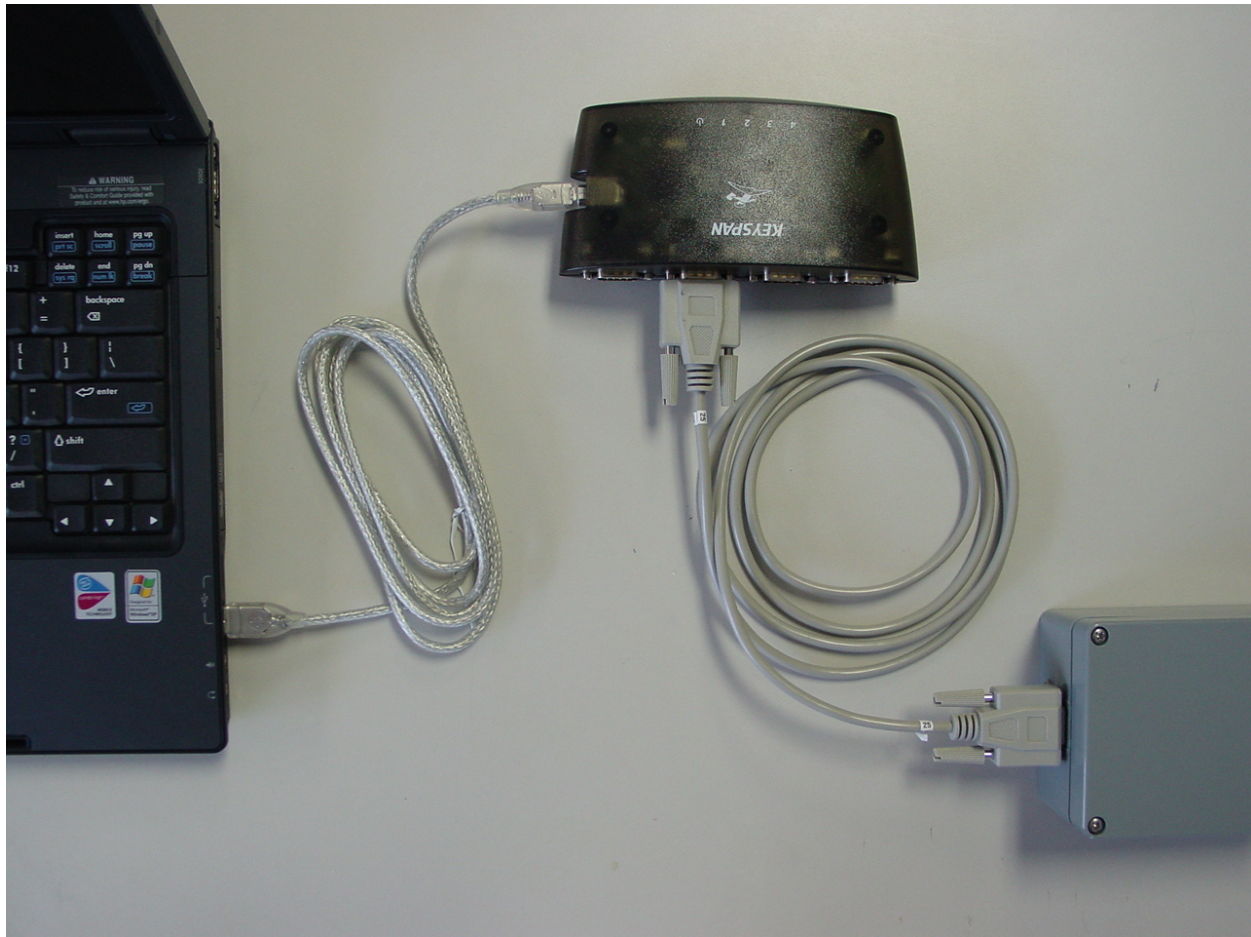

Figure 12-1. Direct pocket simulator to Dock Server machine connection.
1. Connect one end of a serial cable to the RS-232 port on the simulator and the other end to a Dock Server machine serial port. Figure 12-1 shows a direct connection between a pocket simulator and a Dock Server machine.